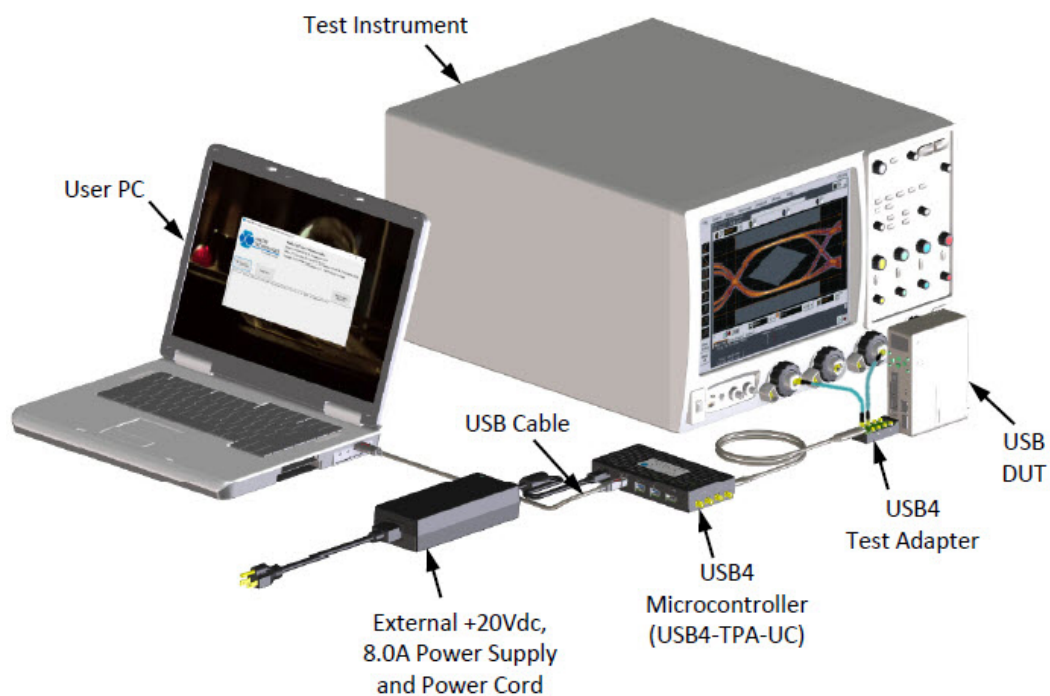

Figure 39 Transmitter TP2/TP3 Test Setup
- 1 For the physical connection between the DUT & the Oscilloscope, see Figure 39 and for configuring the USB4 Test Application, see "Setting up the USB4 Test Application" on page 46.
- 1 Connect the DUT to the Oscilloscope as shown in the Figure 39.